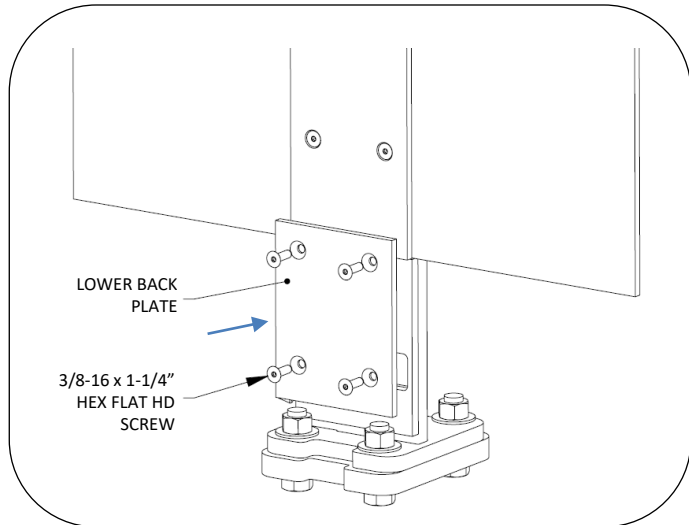

FIG. 13 – INSTALL BACK COVER PLATE
18. Install back cover plate, see Fig. 13.